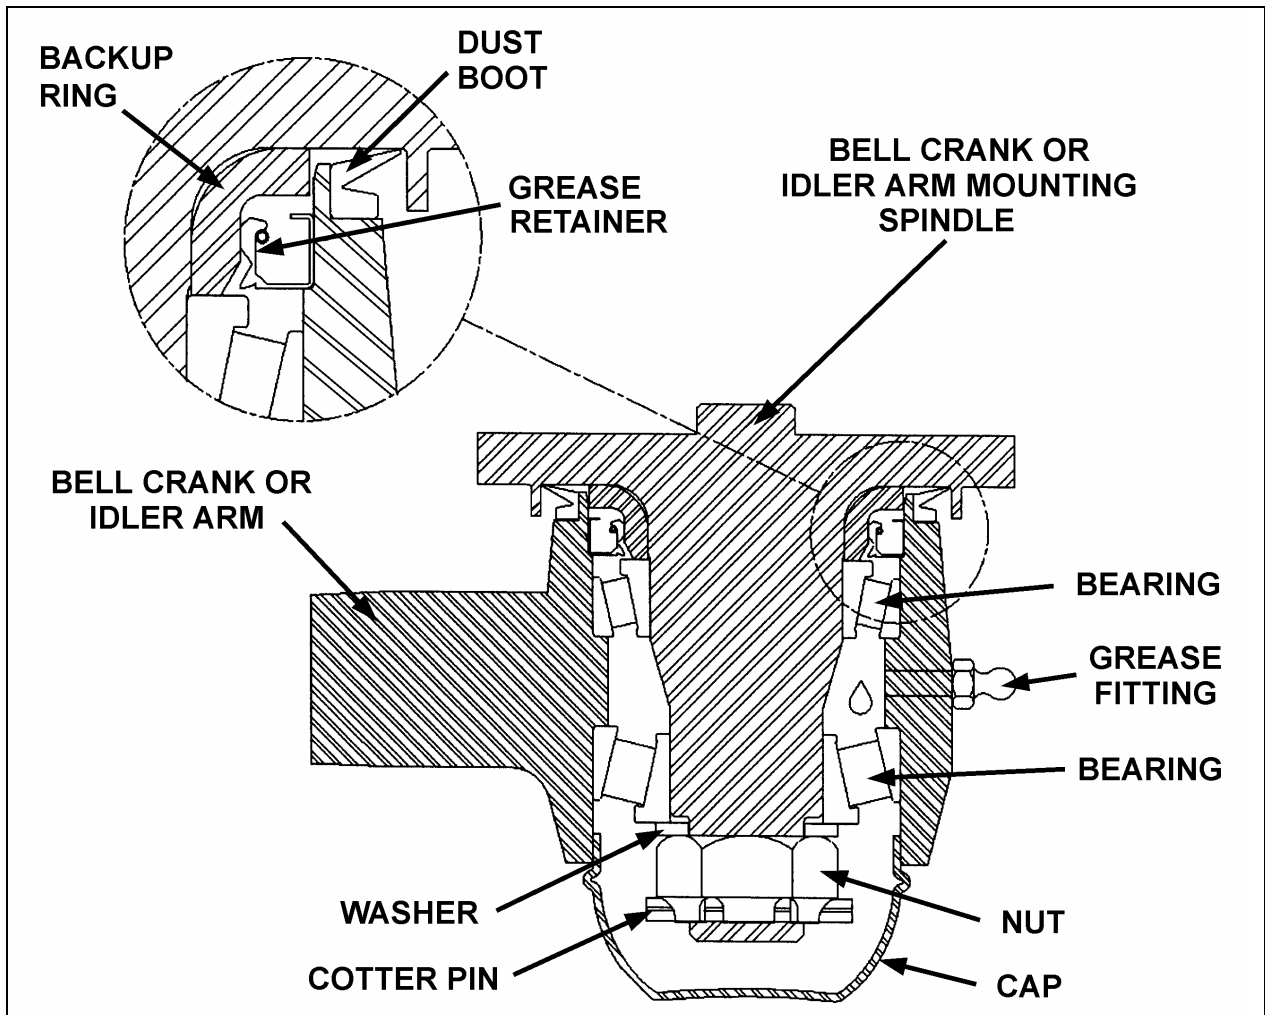

FIGURE 13: BELL CRANK AND IDLER ARM
2. Remove the cap (Fig. 13).
3. Remove the cotter pin, nut and thrust washer. Remove bearings, grease retainer, backup ring and the bell crank or idler arm from its mounting spindle (Fig. 13).
2. Install grease retainer and bearing in bell crank or idler arm eye (Fig. 13).
**Note:** Install grease retainer according to figure 13. Grease must be able to exit the bell crank or idler arm mechanism. For grease retainer installation use tool Prevost # 110683.
**Note:** Bend cotter pin around the nut (Fig. 13). Do not bend the cotter pin in the direction of the cap, because it may interfere with the cap.